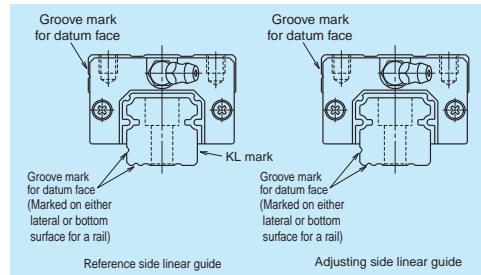

Fig. 9.1 Datum face
- In case that two or more linear guides are used together, one linear guide is designated as a reference side guide, and the rest is adjusting side guide(s). The reference side linear guide has its reference number, serial number, and "KL" mark on the opposite side of the datum face (Fig. 9.1).